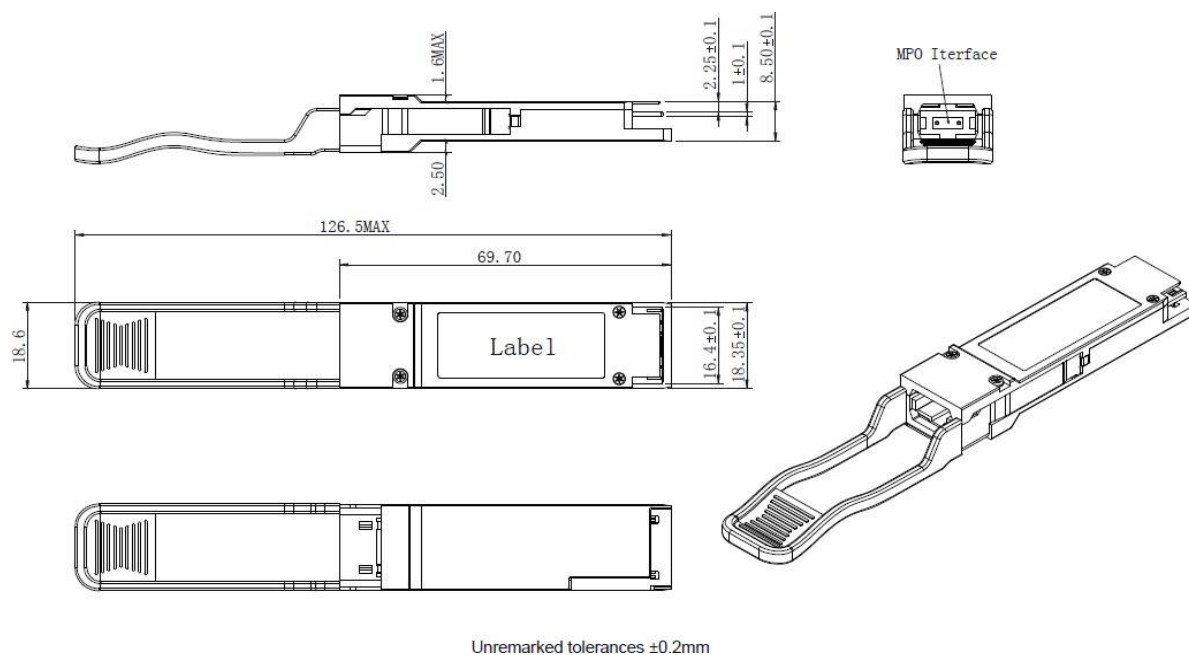

Figure2. Mechanical Outline
4. Plug Sequence specifies the mating sequence of the host connector and module. The sequence is 1A, 2A, 3A, 1B, 2B, 3B. (see Figure 2 for pad locations) Contact sequence A will make, then break contact with additional QSFP-DD pads. Sequence 1A and 1B will then occur simultaneously, followed by 2A and 2B, followed by 3A and 3B.